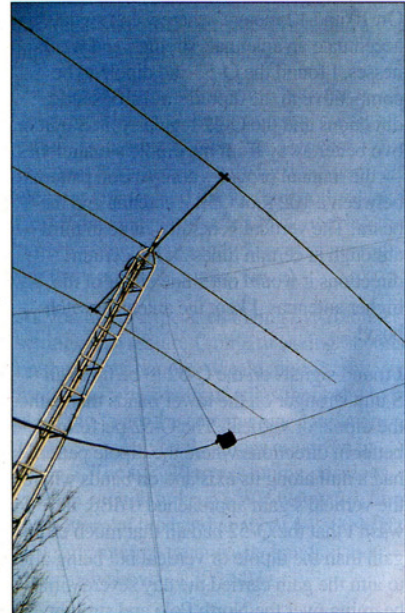
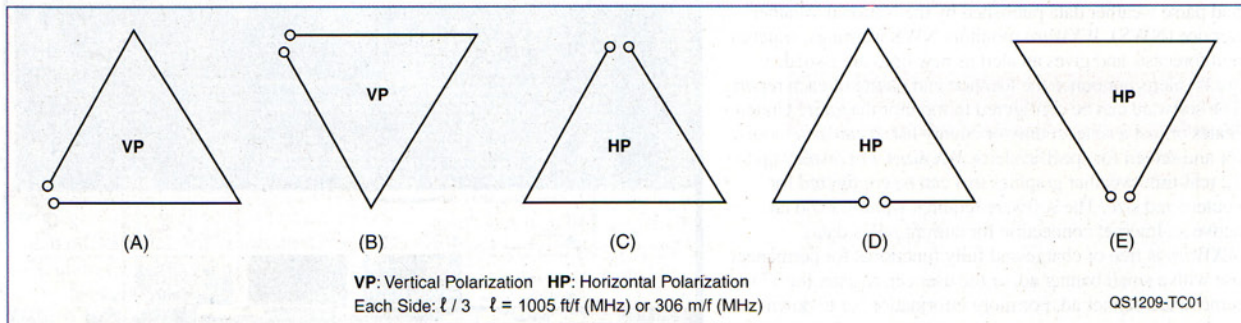

Figure 2 — Here is a view of the delta loop configuration E in practice.
Figure 1 — There are various possible configurations and polarizations for a full size delta loop.
when fed from the bottom half or top half. Some common configurations are illustrated in Figure 1.
A delta loop works well especially for the lower frequency bands when the antenna is vertically polarized and height is a challenge. When it is fed as shown in Figure 1, Parts A and B, the delta loop will have vertical polarization, and give a low angle of radiation, approximately 28°. In horizontally polarized configurations as shown in Figure 1, Parts C and D, the antenna presents a very high angle of radiation. The configuration shown in Part E presents an exception that shows a moderately high angle of radiation, but also tends to have a low vertical component as well. The best configurations, in order of performance are B and then A, E respectively.
To summarize, an air core 4:1 balun, used with either configuration A or B from Figure 1 presents a very effective DX multiband antenna. The balun used with configuration E would be the second best choice. This antenna has given me flexibility and multi-band performance from a number of station locations over the years. The 20 m delta loop, in particular, goes with me everywhere for portable operations across 5 bands. — 73, Sajid Rahim, VA3QY/A22EW/H5ANX, 3474 Hannibal Rd, Burlington, ON L7M 1Z6, Canada; sajsanr@gmail.com
Figure 1 — This drawing shows the final configuration. The antenna is tilted out of the vertical plane by about 30°. Maximum signal strength is in the direction opposite to the tilt.
Figure 2 — If the antenna wire were black or gray, it would be even harder to see. Good for an inconspicuous installation. I needed to add the white ribbon so I wouldn't blunder into it while walking around. Note the "high tech" rocks holding the antenna down.
I decided to focus on the corner-fed full wave delta loop as described in Sajid's article. I liked the idea of a ground-independent system, as he mentioned. A little *EZNEC* modeling would, indeed, work very well close to the ground — even, in fact, with the bottom (horizontal) leg on the ground! Also, by tilting the plane of the delta off vertical it seemed that I could realize some forward gain over a strictly vertical orientation, while the elevation pattern still showed a maximum at a fairly low angle. This seemed too good not to try. Figure 1 shows the configuration. The best part of this antenna is that it's very easy to put up.
Step 3: Form the rest of the wire into an equilateral triangle as shown in Figure 1. Since the bottom corners are on the ground, you can use a couple of rocks to hold them in place, as shown in Figure 2.